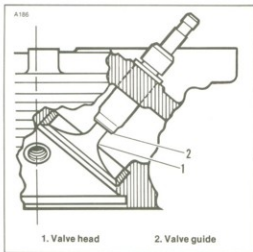

Figure 3-13. Valve Guide to Valve Head Clearance
6. After valve seat refacing, the clearance between the valve head (1) and the end of the exhaust valve guide (2) must be correctly gauged to prevent contact. See Figure 3-13. Check valve guide to valve head clearance using VALVE GUIDE GAUGE/CUTTING TOOL, Part No. HD-34107.